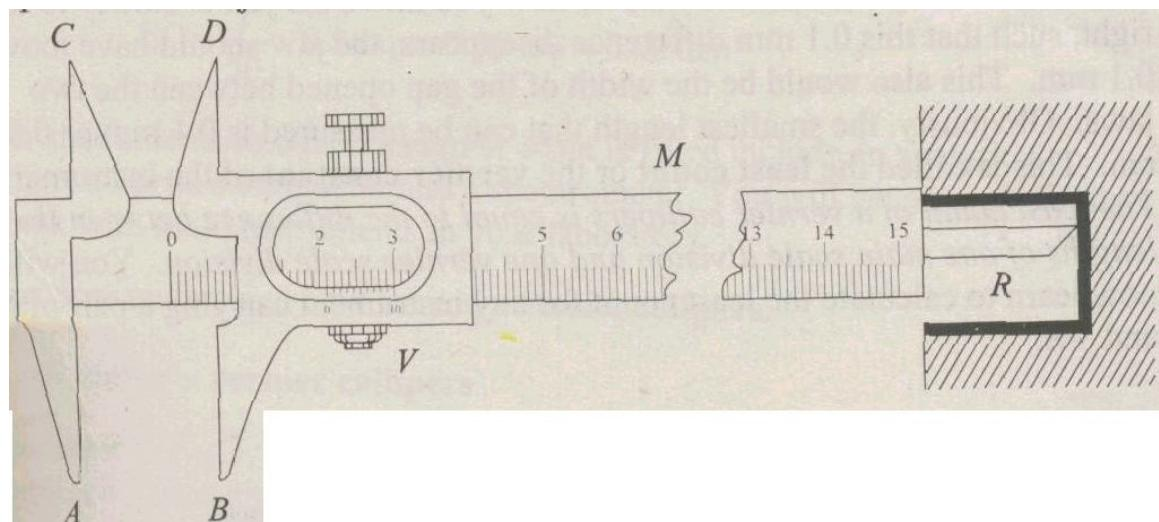

Fig. 3.1: A vernier callipers
Refer to Fig.3.1. It depicts a vernier callipers, which is named after its inventor Vernier. The instrument, made of steel, consists of a fixed scale (*M*) called the **main scale** (MS), which is graduated into centimetres and millimetres, and a pair of jaws *A* and *B*. Jaw *A* is fixed to the main scale and the jaw *B* can slide over it. Moreover, jaw *B* has a subsidiary scale *V*, called the **vernier scale** (VS), which can slide along the main scale. These scales have distinctly visible graduations. The main scale can be used to measure lengths in the range 0-15 cm. The object whose length is to be determined is placed close-fitted in the gap between the jaws *A* and *B*.
If you look at the inset in Fig.3.1, you will note that the value of 10 VSD is equal to the value of 9 MSD. Therefore, we can say that $1 \text{ VSD} = (9/10) \text{ MSD}$. Hence we can write the expression for least count as